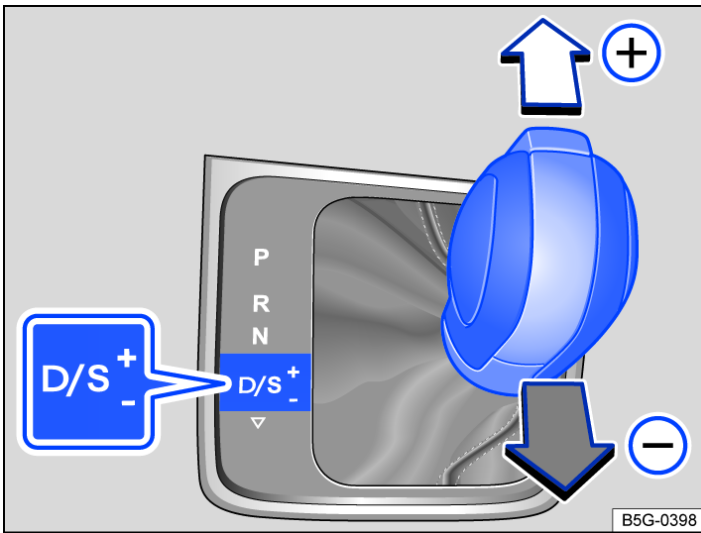

Fig. 1 Selector lever in tiptronic position(left-hand drive vehicle). The right-hand drive vehicle is a mirror image.
2. Tap the selector lever forward **+** or to the rear **-** to upshift or downshift → *fig. 1*.